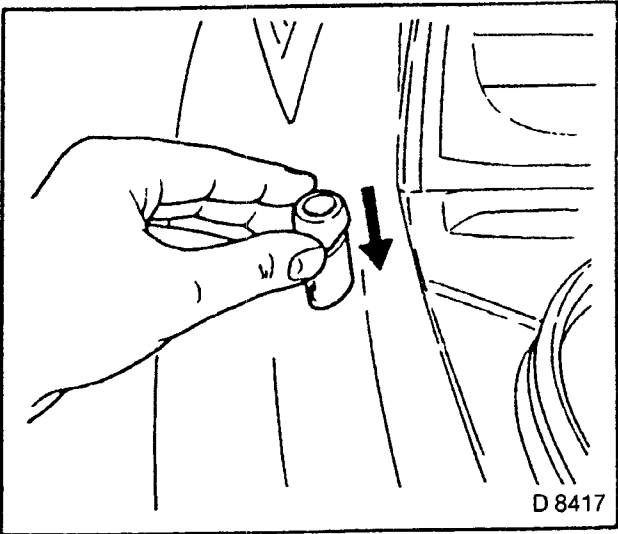

Fig. 6
- 3. Antenna hole closure plug (Fig 6 shows Astra).